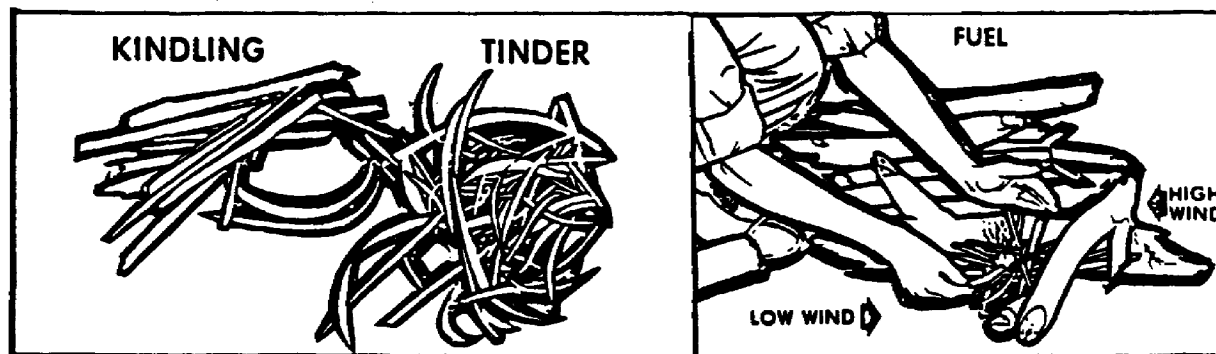

Figure 43. Stages of a fire.
a. Fuel. Fuels used in building a fire normally fall into three categories (Figure 43) that relate to their size and flash point: tinder, kindling, and fuel.